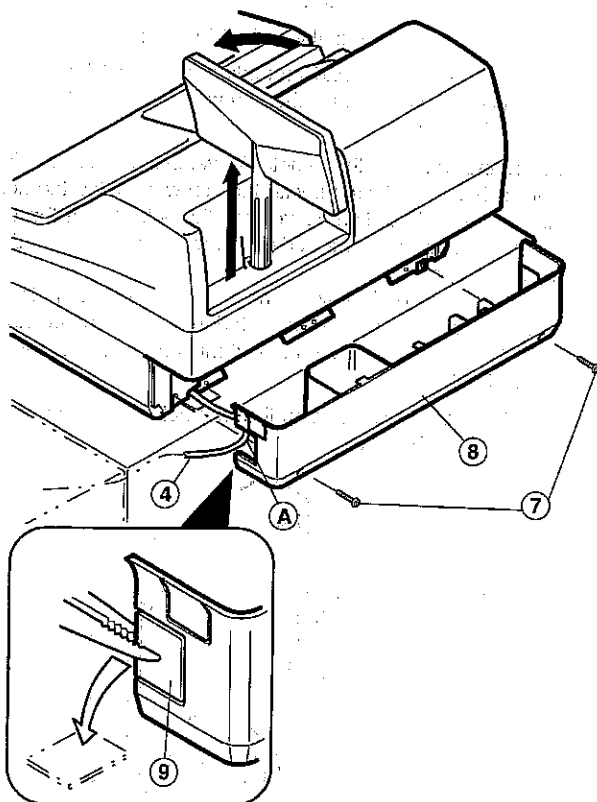

Fig. 4
- 9) Remove two rear cover holding screws ⑦ and remove the rear cover ⑧ (Fig. 4).
- 10) Break open the knockout ⑨ of the rear cover ⑧ using the tool (Fig. 4).
- 11) Route the option drawer cable ④ through the hole ⑨ and fasten the rear cover (Fig. 4).